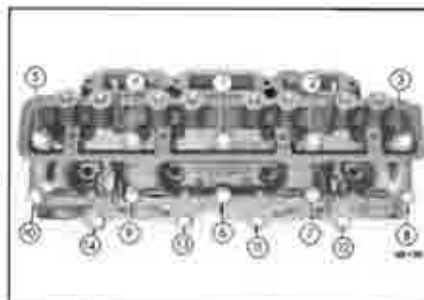

Figure 60-130—Cylinder Head Bolt Tightening Sequence
5. Clean and lubricate the head bolts with "Perfect Seal" sealing compound. Install bolts as shown in Figure 60-130.
6. Tighten the head bolts a little at a time about three times around in the sequence shown in Figure 60-130. Give bolts a final torque in the same sequence. Torque to 65-80 lb. ft.